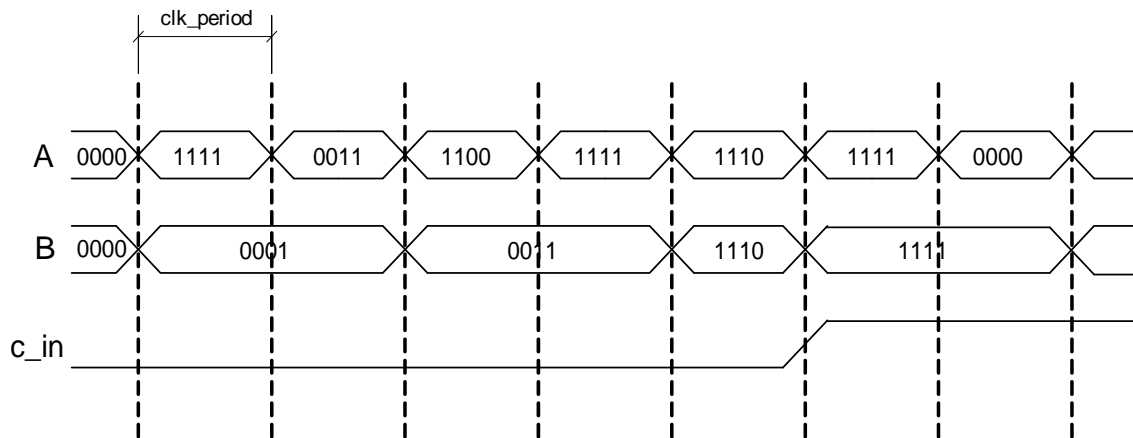

Figure 15; Desired waveform for 4-bit full adder simulation
5. Creating a testbench; Similar to steps 2 and 3 create a new source for the test bench. Go to **Project** → **New Source**, select **VHDL Test Bench** and enter the name “four_bit_full_adder_tb”. Associate the test bench with the four_bit_full_adder source file. Click **Next** → **Finish**. The result will be a new source file where the skeleton is ready for you to fill it out with the processes per each signal. Describe the input signals for simulation following the waveform graph in figure 15.